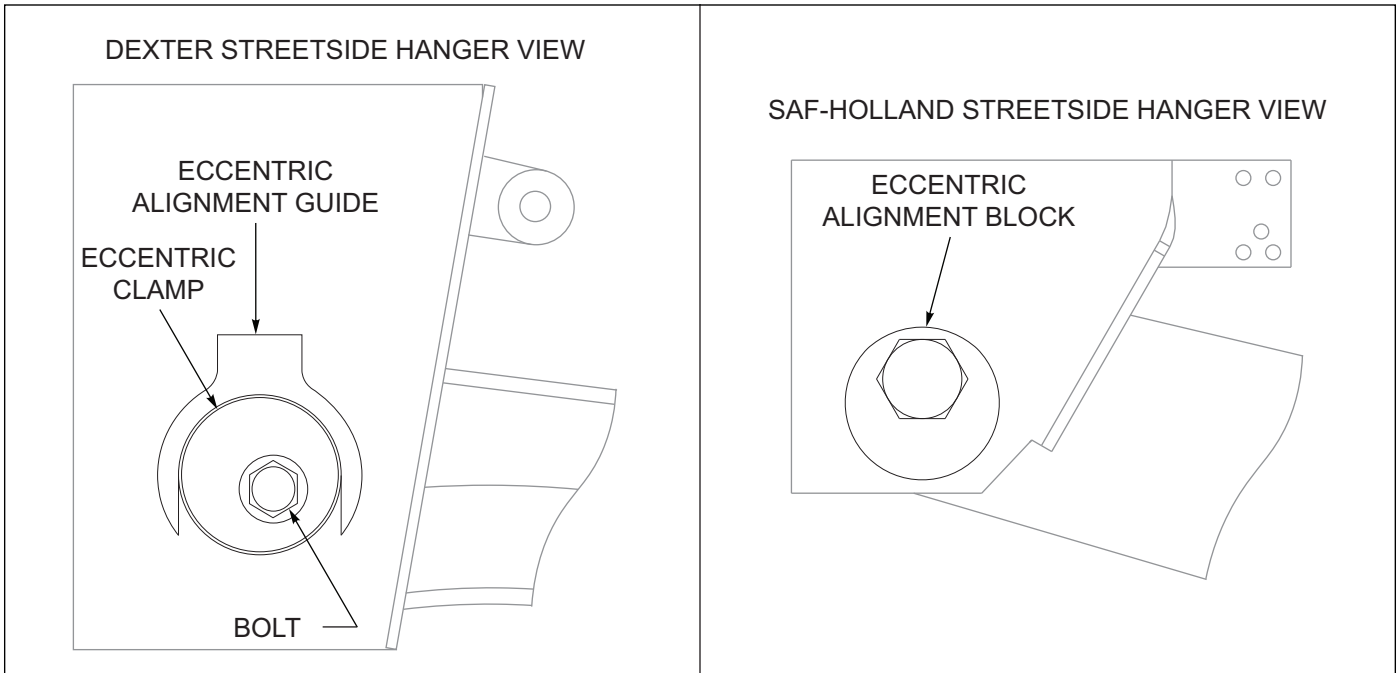

Figure 4-8: Streetside Suspension Hanger
- a. 1-1/8 in Pivot Bolts - Loosen pivot bolt lock nuts and rotate eccentric pivot bolts clockwise or counter-clockwise to adjust. Repeat Steps 5-6 until measurement is achieved, See Figure 4-8.
- b. 7/8 in Pivot Bolts - Break welds if present between hanger mounts/eccentric collars and pivot lock nuts/jam nuts. Loosen jam nuts if installed. Loosen lock nuts. Rotate eccentric pivot bolts clockwise or counter-clockwise to adjust. Repeat Steps 5 through 6 until measurement is achieved, See Figure 4-8.
- a. 1-1/8 in Pivot Bolts - Loosen pivot bolt lock nuts and rotate eccentric pivot bolts clockwise or counterclockwise to adjust. Repeat Steps 5 through 6 until measurement is achieved, See Figure 4-8.
- b. 7/8 in Pivot Bolts - Break welds if present between hanger mounts/eccentric collars and pivot lock nuts/jam nuts. Loosen jam nuts if installed. Loosen lock nuts. Rotate eccentric pivot bolts clockwise or counterclockwise to adjust. Repeat Steps 5 through 6 until measurement is achieved, See Figure 4-8.